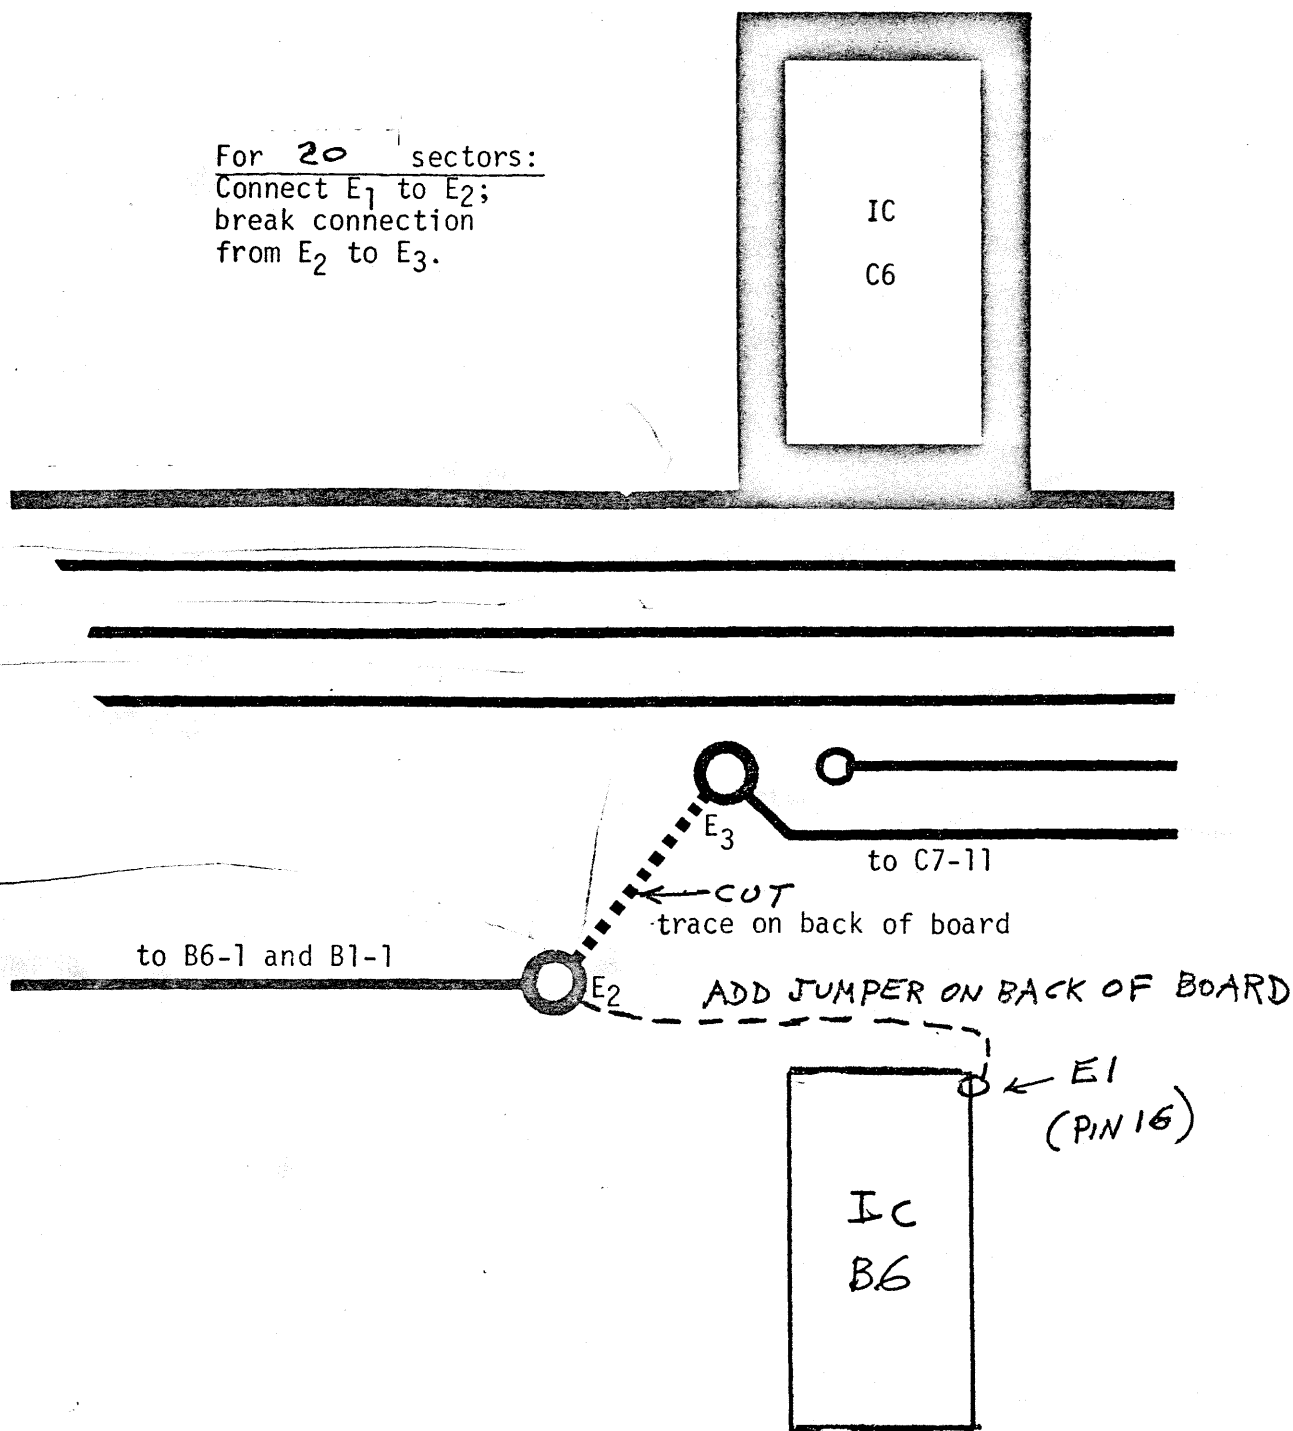

Figure 3-7. Sector Format Change on Coupler Card
3.1.7.4 Sector Format Changes. The XFD-108 normally comes with a 12-bit word, and 10 sectors of 256 words each on 64 tracks. To change to allow 20 sectors, it is necessary to disconnect B6-1 from C7-11 and reconnect B6-1 to Vcc as shown in Figure 3-7.